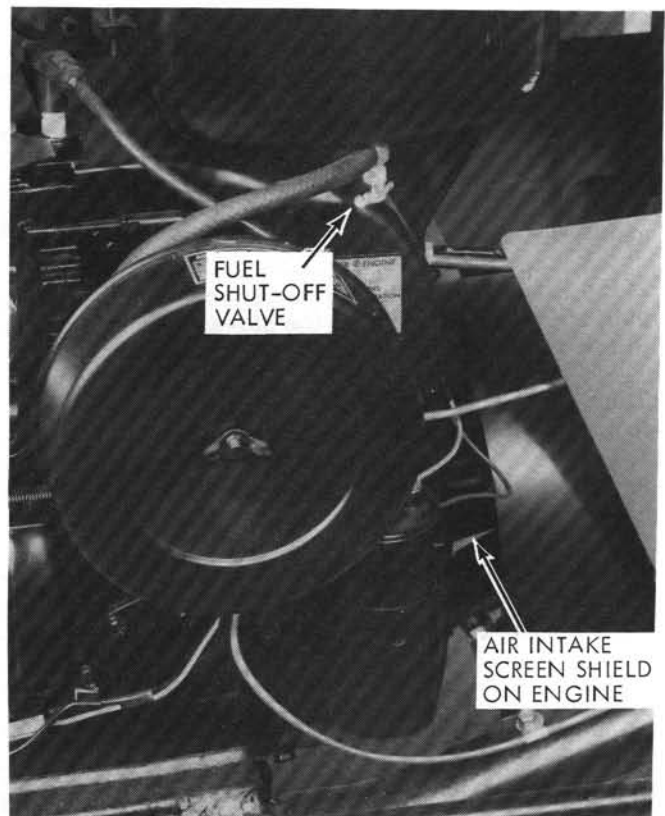

Figure 7.
2. Check the fuel supply and fill tank if necessary. Open the fuel shut-off valve. (See Fig. 7).
3. The air intake screen on the engine flywheel is protected by a shield (See Fig. 7). Check to be certain that the air intake screen is clean and properly fitted to the flywheel. If the screen becomes bent, cracked, broken or otherwise damaged, it must be replaced.